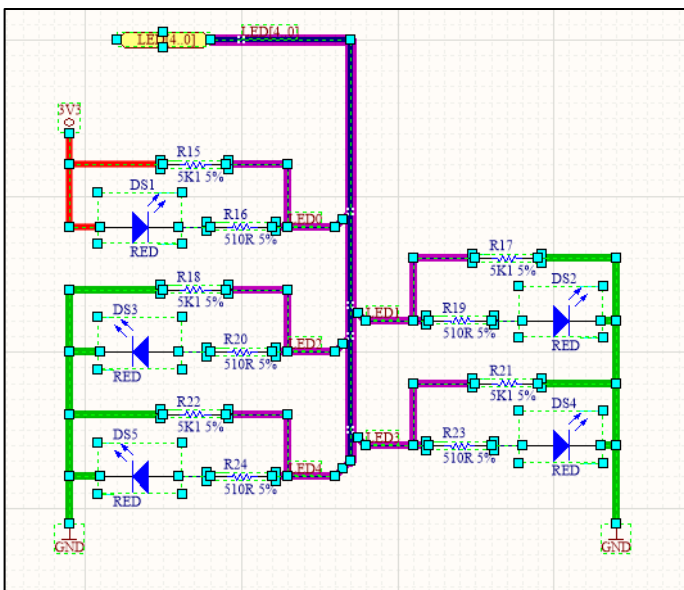

Figure 2. Selecting LEDS.SCHDOC
6. Select the of all objects in the schematics as shown in Figure 2.